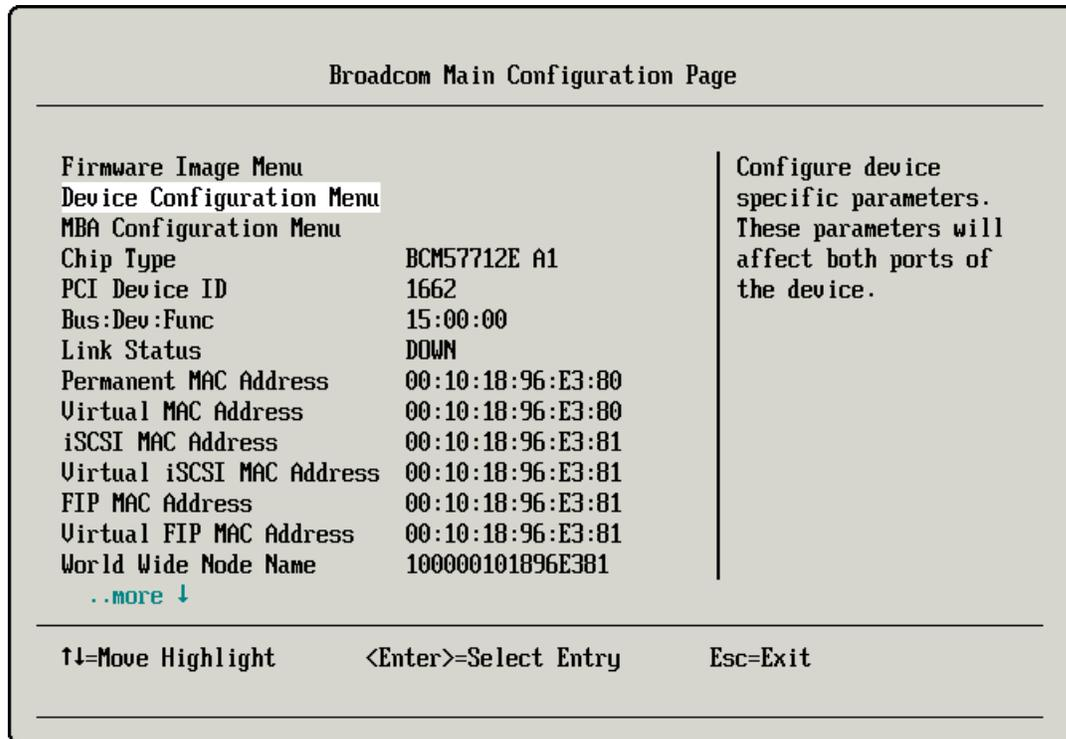

Figure 10-16 Broadcom Main Configuration panel
6. In the Broadcom Main Configuration panel (Figure 10-16), select **Device Configuration Menu**.